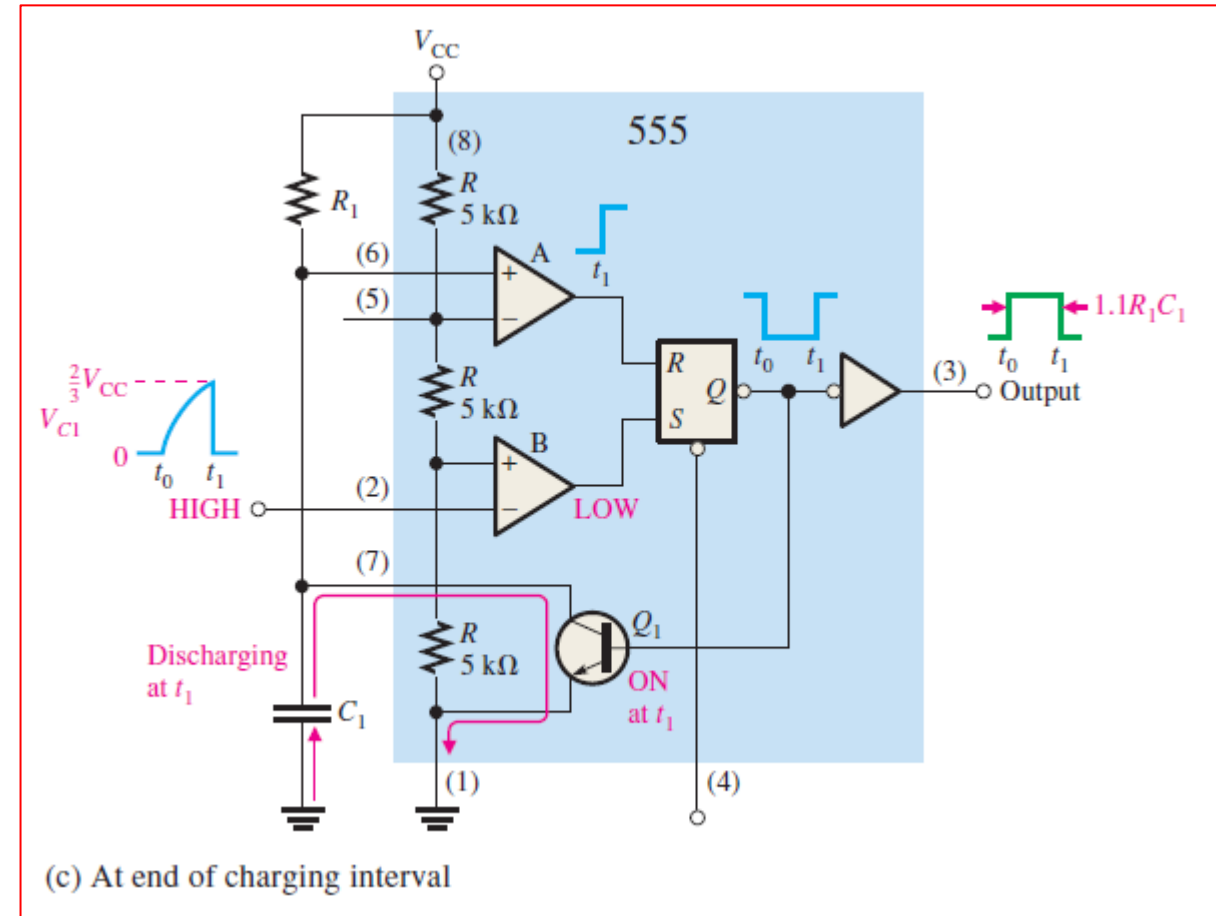

FIGURE 54 One-shot operation of the 555 timer.
- Before a trigger pulse is applied, the output is LOW and the discharge transistor Q_1 is *on*, keeping C_1 discharged as shown in Figure 54(a).